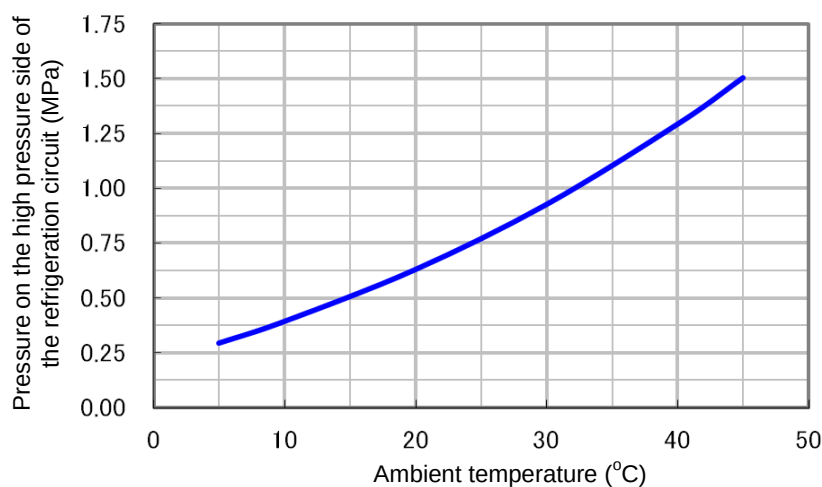

Fig. 3.3-6 Ambient temperature and refrigerant circuit pressure
- (1) Measure the ambient temperature (room temperature).
- (2) Check the pressure shown for "Ph: Refrigerant circuit pressure on the high pressure side" in the "Check Monitor Menu" of the Thermo-Chiller.
- (3) If the measured point is lower than the values shown in the graph in "Fig. 3.3-6: Ambient temperature and refrigerant circuit pressure", it means there is refrigerant leakage caused.